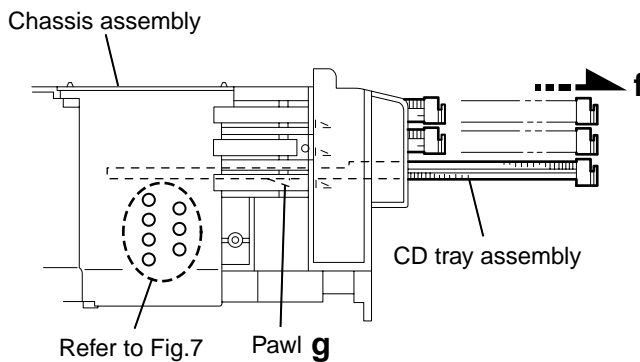

Fig.6
10. Make sure that the driver unit elevator is positioned as shown in Fig.6 from to the second or fifth hole on the left side face of the CD changer mechanism assembly.